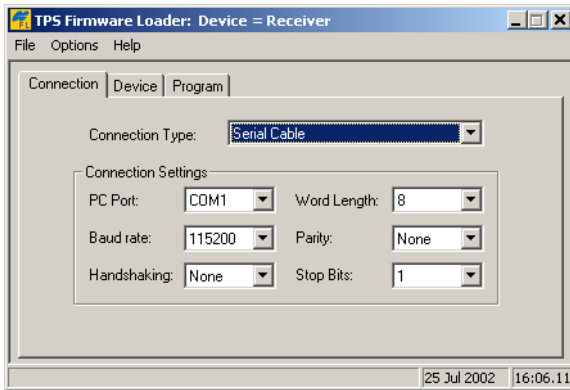

Figure 4-13. FLoader Main Screen
5. On the *Connection* tab, select the COM port on your computer that connects with your receiver and select its speed (usually 115200) (Figure 4-13 on page 4-23).